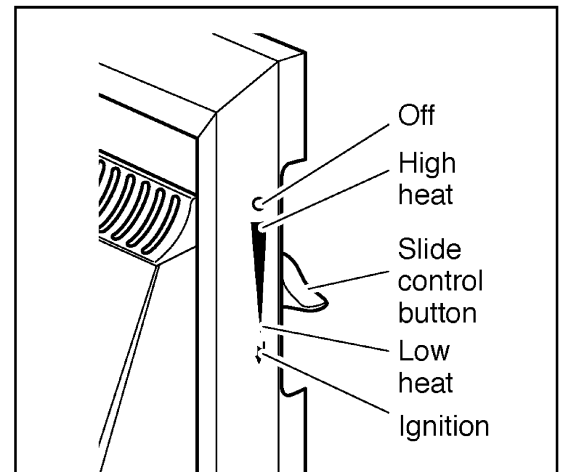

Figure 36. Control position markings
The control position markings on the front surround are shown in figure 36.
1. Gradually slide the button up to increase the burner setting. The burner should be at its maximum setting at the high heat position shown in figure 36. You should feel a check to the button movement at this position.